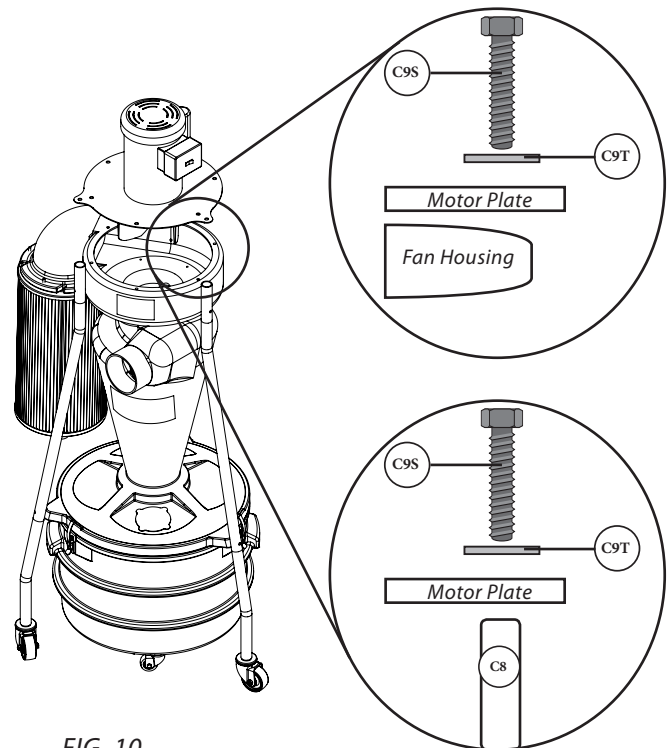

FIG. 10
- 10** Carefully lift the Motor Assembly (A) on top of the unit and align the motor plate holes with the fan housing holes and the threaded inserts on top of the legs [FIG. 10]. Thread and tighten the nine 5/16" x 1" Hex Head Bolts (C9S) and nine 5/16" Flat Washers (C9T).